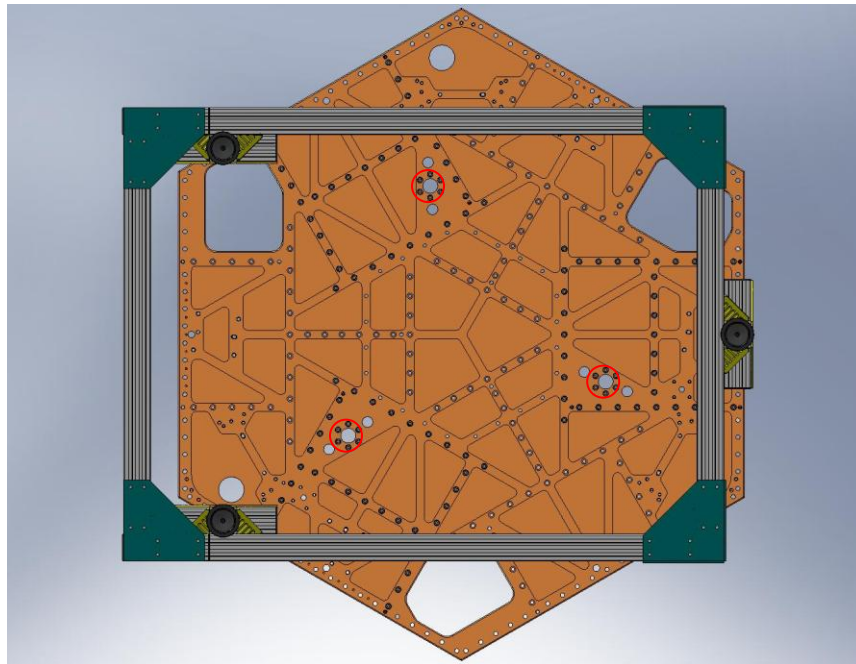

Figure 2.46. Insert screws into bottom of Flexure Posts.
- Torque the (3x 6) screws underneath the **Flexure Posts** to the final spec (see Figure 2.46).
- Carefully lower all (3) **Pitchfork Assemblies** onto **Stage 1 Floor**. Make sure the **Pitchforks** stay clear of the **60 Deg Rib Brackets** (D071073) on the sides of the **Boxworks**. Make sure all (4) pins in bottom of each **Pitchfork** seat properly in their mating holes and slots. *Caution: Pitchfork Assemblies are heavy (96 lbs)!*